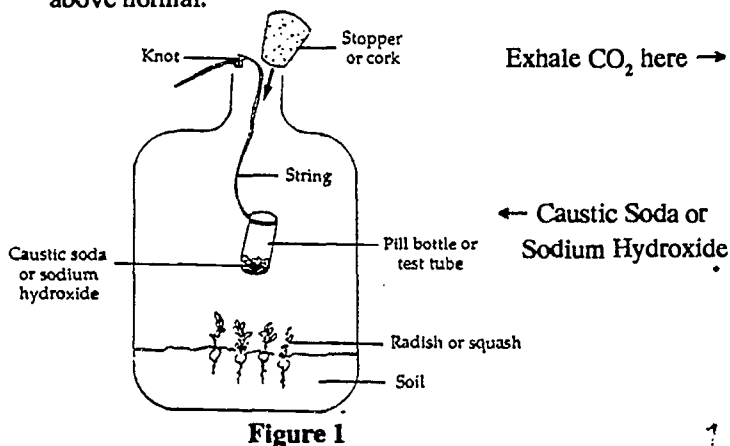

Figure 1
6. Suspend the pill bottle or test tube with the caustic soda or sodium hydroxide inside a glass jug containing small seedlings. This will absorb CO_2 and thus decrease the level of CO_2 in the jug (See Figure 1).